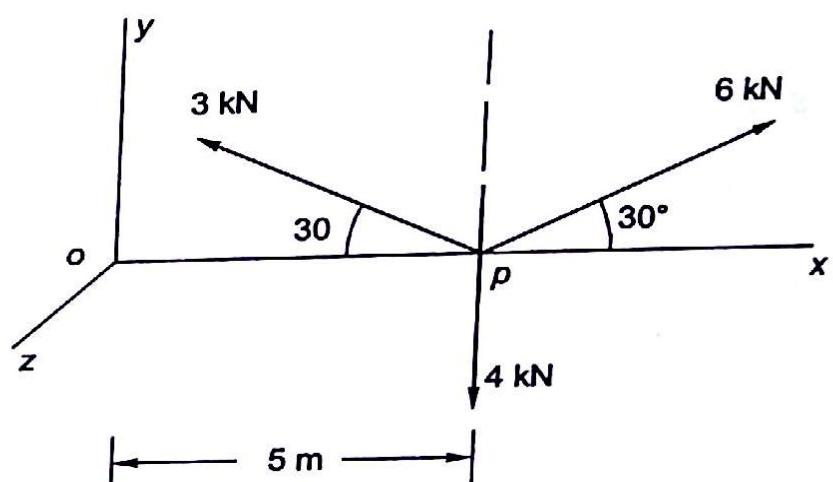

Fig. 1.30
1.5 Three concurrent forces are passing through a point P on x -axis as shown in Fig. 1.30, what is moment of these forces about the origin O ?